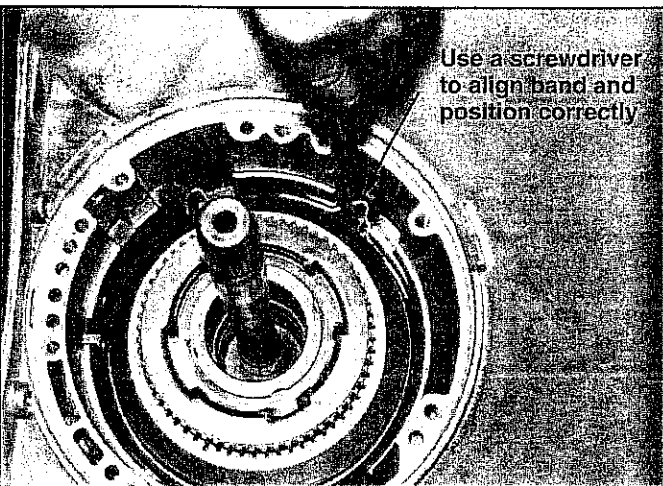

FIGURE 50
STEP 19. Install the B&M intermediate overrun brake band. Use a screwdriver to engage the anchor into the boss in the case. (See Fig. 50) Insert a thin screwdriver through the servo rod hole in the case and work the band to seat it.